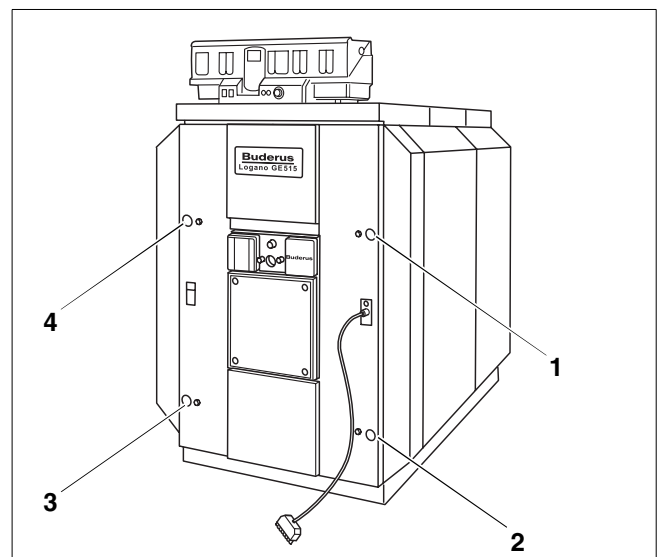

Fig. 65 Bolts for fastening burner door
- Unscrew the four machine bolts used to fasten the burner door to the front boiler section (Fig. 65, ref. 1 – 4).